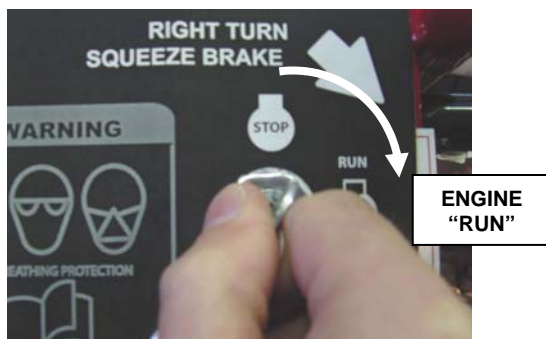

FIGURE 3.14
6. Turn Key Switch to **RUN** position. See Figure 3.14.